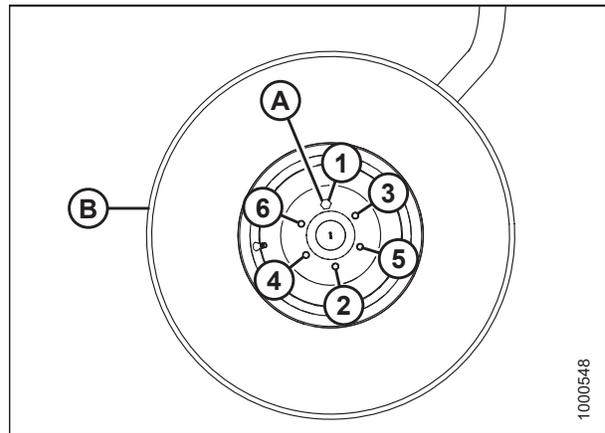

Figure 5.212: Formed Caster Wheel Nut Tightening Sequence
Wheel bolt (A) tightening sequence for a formed caster wheel (B) shown in Figure 5.212, page 416.